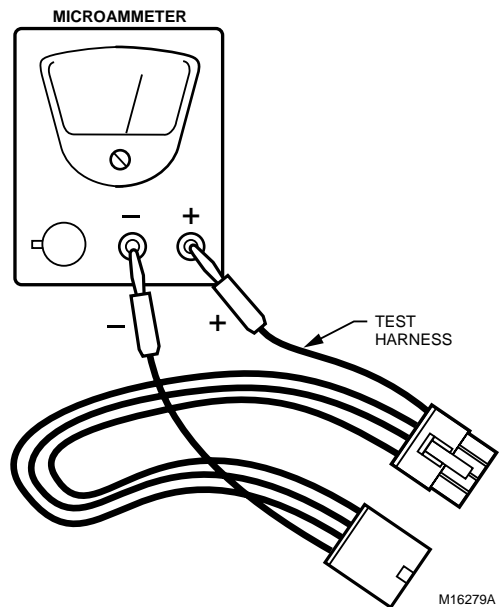

Fig. 1. Test Harness connected to microammeter.
- a. Insert the banana plug connected to the valve side of the test harness into the positive (+) jack on the dc micro-ammeter as shown in Fig. 1.
- b. Insert the other banana plug connected to the pilot burner side of the test harness into the negative (-) jack on the dc micro-ammeter as shown in Fig. 1.
- b. Insert the other banana plug connected to the HSI element/flame rod side of the test harness into the negative (-) jack on the dc micro-ammeter as shown in Fig. 1.